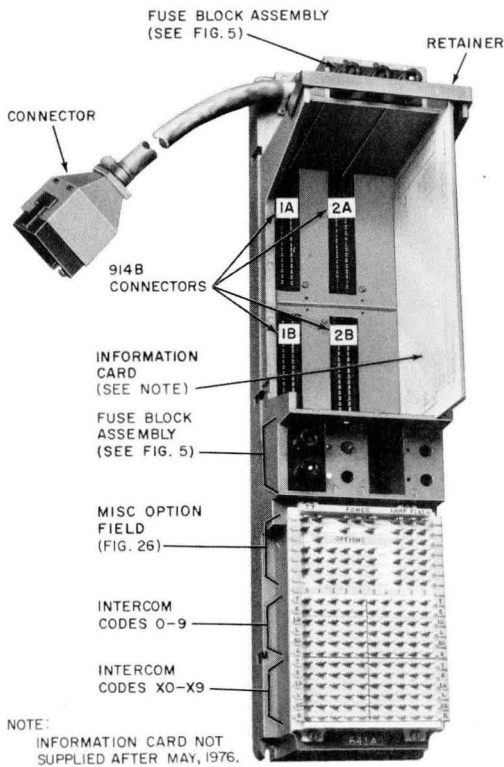

Fig. 3—641A Modular Panel
D. 641A Modular Panel (Fig. 3)
- Terminal field (yellow) utilized by all connectors for a common dial intercom service (**NOT** related to individual connectors by quadrants as on the 620A (MD), 620A2, and 642A panel).